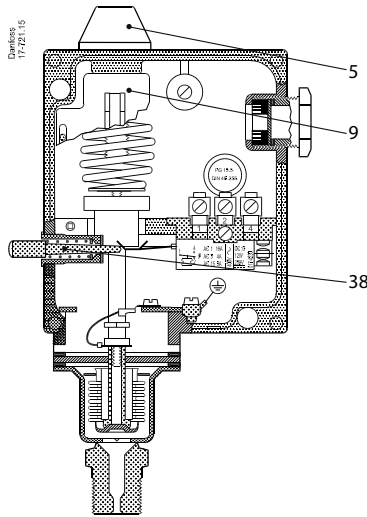

Fig. 1
temperature (for RT 31, RT 32 and RT 33 on falling temperature). The setting can be made with the setting knob (5) while at the same time reading off the main scale (9). See fig. 1. The differential must be set with the differential setting disc (19) using the nomogram in fig. 2.
håndknappen (5) under samtidig aflæsning af hovedskalaen (9). Se fig.1. Differensen indstilles med differensrullen (19) ifølge nomogrammet i figur 2.